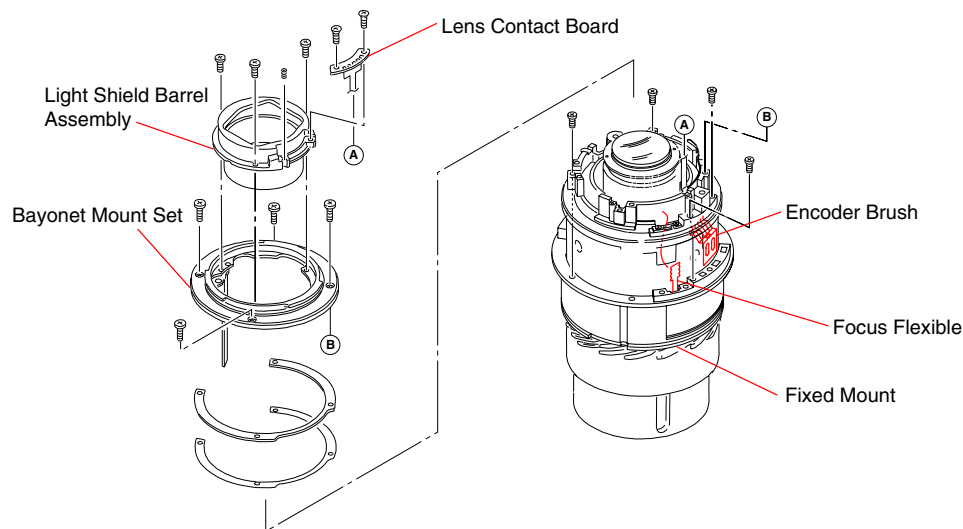

Fig.4-7-5
- 1) Perform the following steps (1) to (3) and set the checking lens into the state of Fig. 4-7-5.
- (1) Remove the front barrel and focus barrel.
- (2) Unsolder the focus flexible from the main flexible set.
- (3) Remove the four screws fixing the fixed mount, and set the checking lens into the state of Fig. 4-7-5.